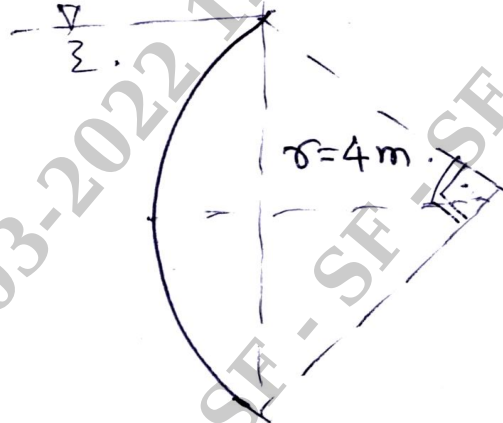

Fig.Q4(c)
- c. Find the horizontal and vertical component of water pressure acting on the face of a tainter gate of 90° sector of radius 4m as shown in Fig.Q4(c).